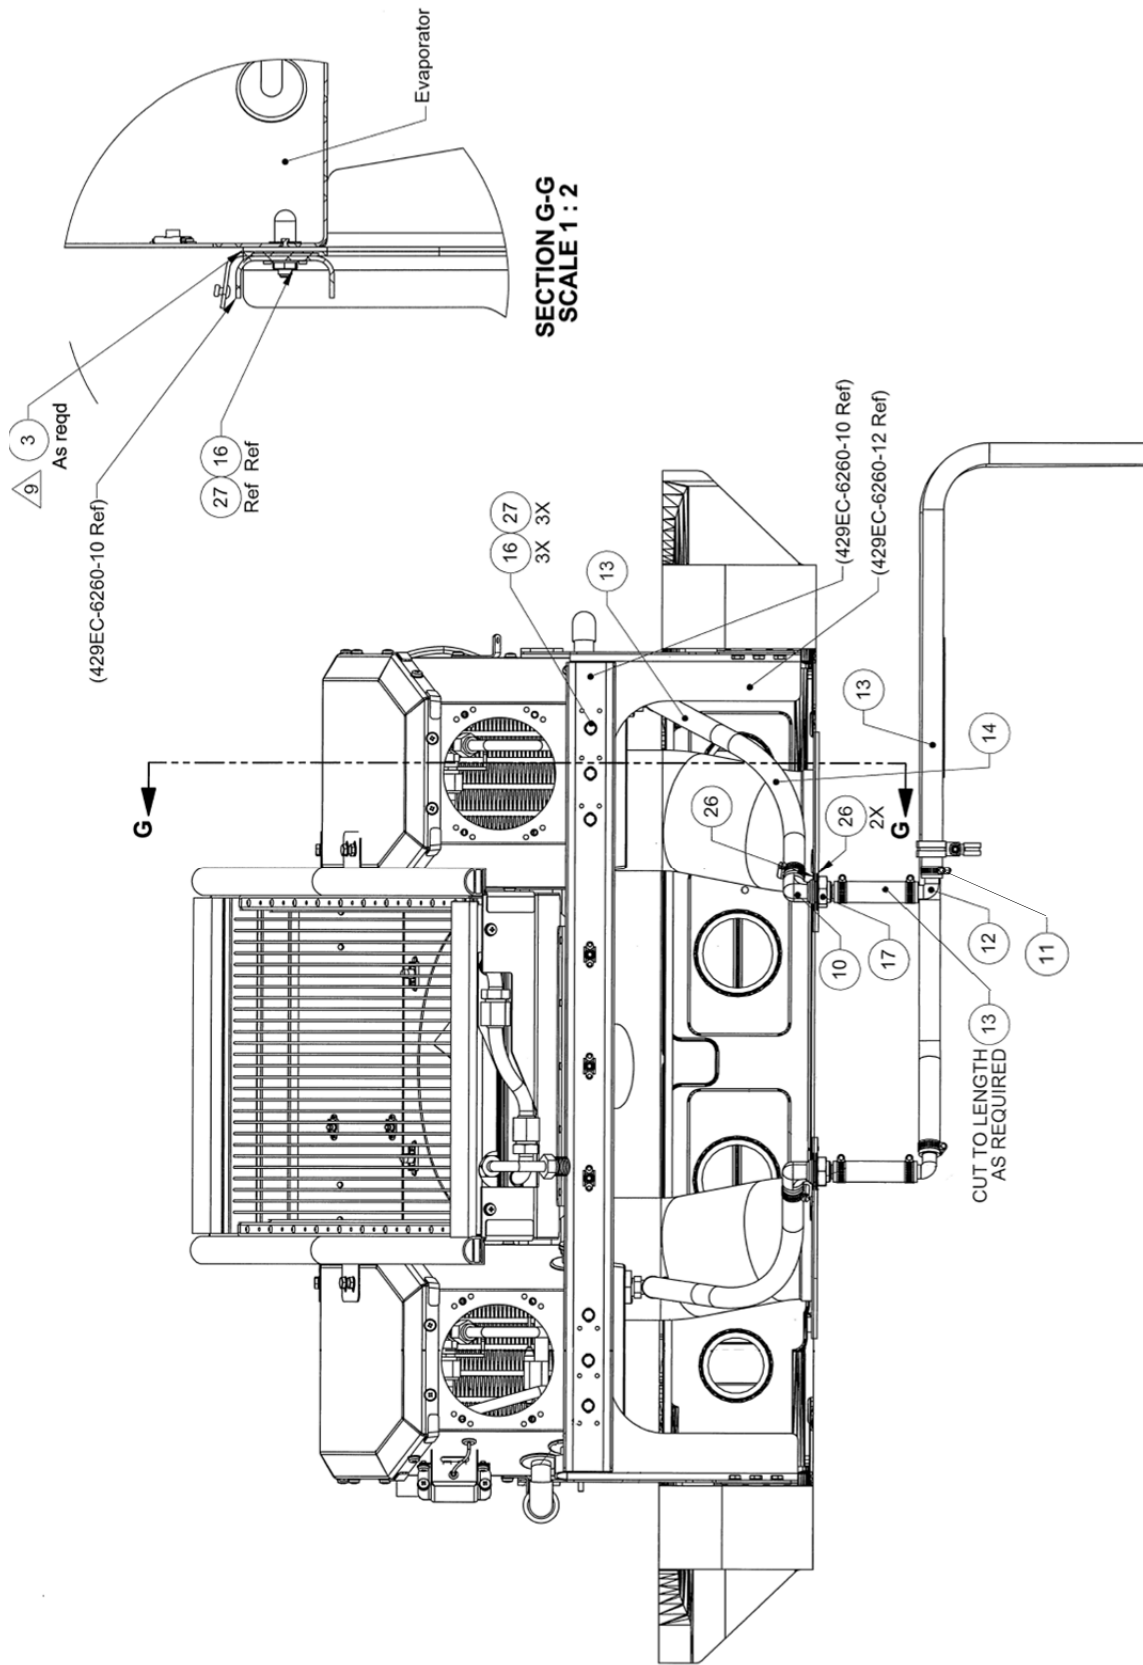

Figure 14: LH Aft Evaporator Installation – View Looking Aft
- 7) Match-drill 429EC-6260-10 fwd & 429EC-6260-20 aft channels to aft evaporator. Do not remove both forward and aft fasteners on evaporator at the same time. (Figures 14 & 15)
- 8) Seal electrical bond by applying a bead of sealing on bonded area using sealant MIL-PRF-81733. Bonded area should be sealed within 7 days. Seal all around aft evaporator and -10/-20 channels using Pro-Seal 890 or equivalent to achieve seal of bonded (grounded) area. (Figure 14, Flag Note 9)
- e. Install LH aft evaporator water drain plumbing as follows (Figure 14, 23, & 24):
- 2) Locate and install S-6554EC-1 (Item 10) bulkhead fitting and attaching hardware. Seal using Mil-PRF-81733 sealant, or equivalent. (Figure 14)
- 3) Install ES48154-1 (Item 13) drain hose as required from evaporator drain fitting to S-6554EC-1 bulkhead fitting and secure using ES30043-2 (Item 11) hose clamps. (Figure 14)
- 4) Route ES48154-1 drain hose to underside of bulkhead fitting and secure using ES30043-2 hose clamps. (Figure 14)